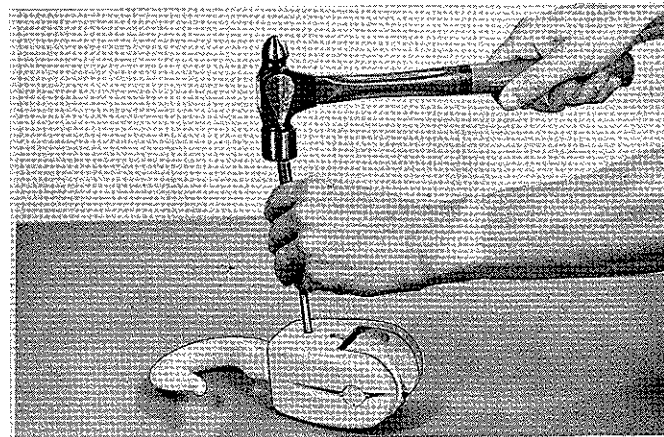

Figure 6-11. Driving Groove Pin from Hook Nut
d. Align groove pin in hook nut with hole in block body and drive out pin with a drift punch. See Figure 6-11.